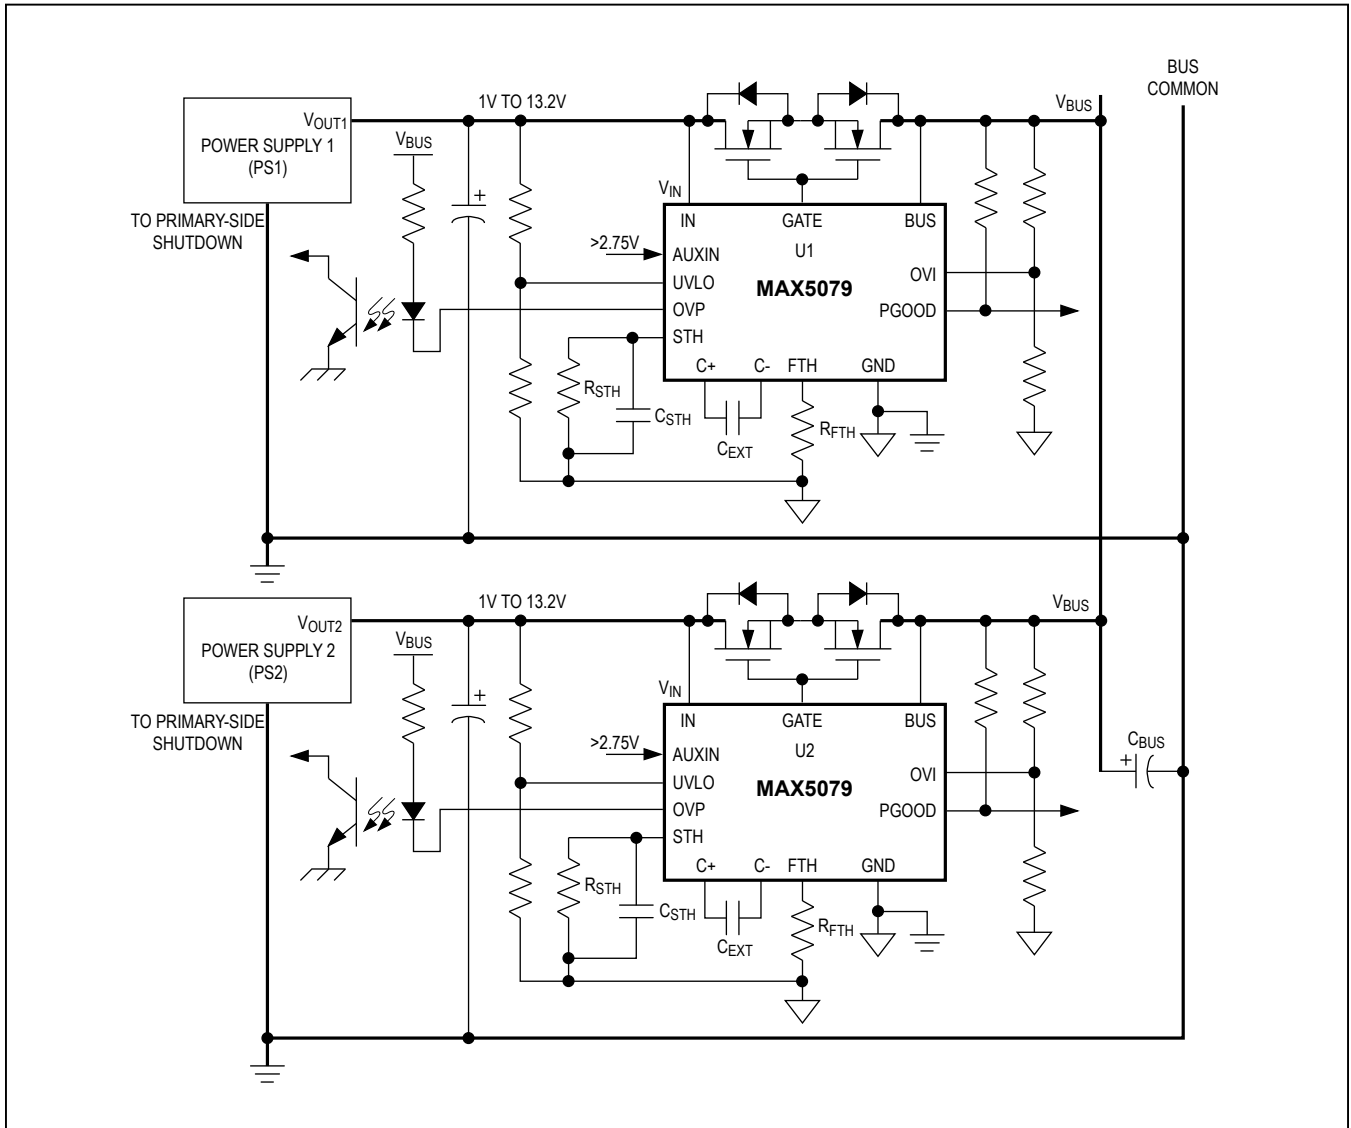

Figure 2. Parallel Supplies with Back-to-Back MOSFET
- a. Use additional n-channel MOSFETs in series with N1, N2, and N3 in the reverse direction to isolate the power supplies from a shorted bus (Figure 2). When power is turned on with a shorted bus, V_{IN} (U1, U2, U3) increases and V_{UVLO} rises above the UVLO threshold. The MAX5079's GATE outputs start charging the back-to-back ORing MOSFET gates. The short-circuit condition at BUS collapses V_{IN} (U1), V_{IN} (U2), and V_{IN} (U3) sending the MAX5079s into undervoltage lockout. This turns off the MAX5079s entirely, including discharging of the charge-pump storage capacitors. The IN voltages come back up again crossing UVLO (UVLO has 60mV hysteresis). A new cycle starts and the time required to charge the chargepump capacitor and the turn-on time of the device serves as a dead time. However, the dead time may not be enough to reduce the dissipation in the MOSFETs to an acceptable level. We advise in keeping the short-circuit current low and providing hiccup current-limit protection to the power supplies (PS1, PS2, and PS3).